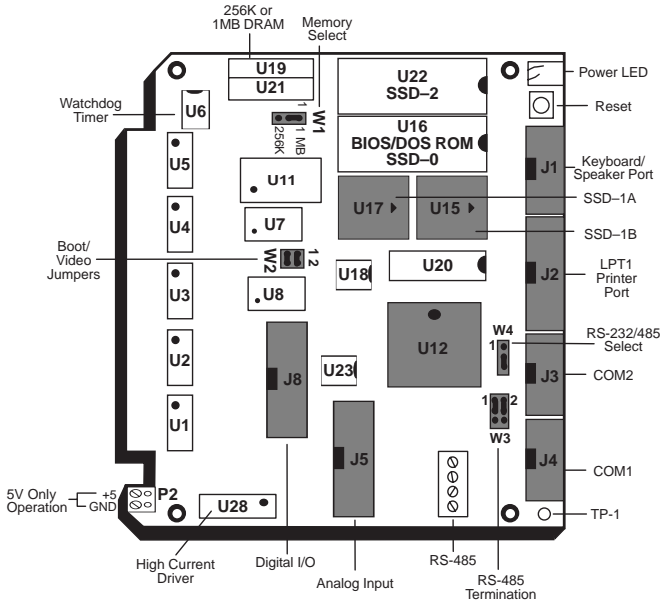

Figure 2-2 – 6012 Component Diagram
1. Please refer to Figure 2-2 for the location of various connectors before installing the 6012 PC Control Card.